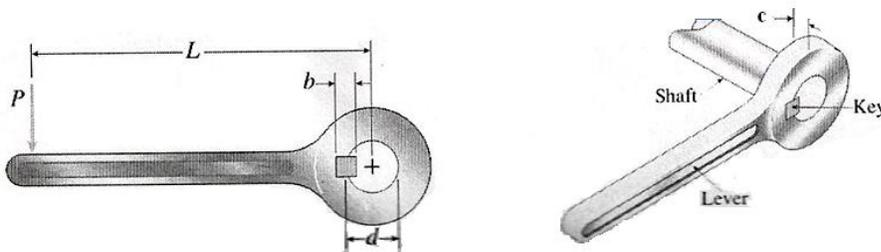

Figure 11a
11. a. A specially designed wrench is used to twist a circular shaft by means of a square key that fits into slots (or Keyways ) in the shaft and wrench as shown in the figure 11a. shaft has diameter  $d$ , the key has a square cross section of diameters  $b \times b$ , and the length of the key is  $c$  the key fits half into the wrench and half into the shaft ( i.e. the keyways have a depth equal to  $b/2$ ). Derive a formula for the average shear stress in the key when a load  $p$  is applied at distance  $L$  from the center of shaft. Disregard the effects of friction, assume that the bearing pressure between the key and the wrench is uniformly distributed and draw free -body diagrams of the wrench and key. (12)